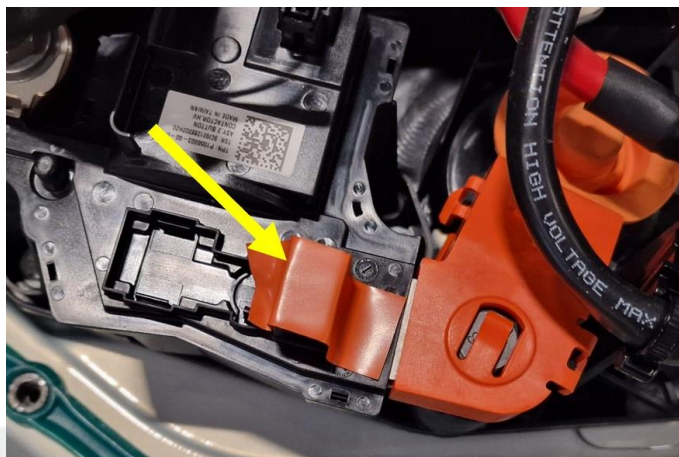

Figure 5
8. Apply electrical tape to the positive pack contactor (Figure 5).
20. Remove the tape from the positive pack contactor (Figure 5).